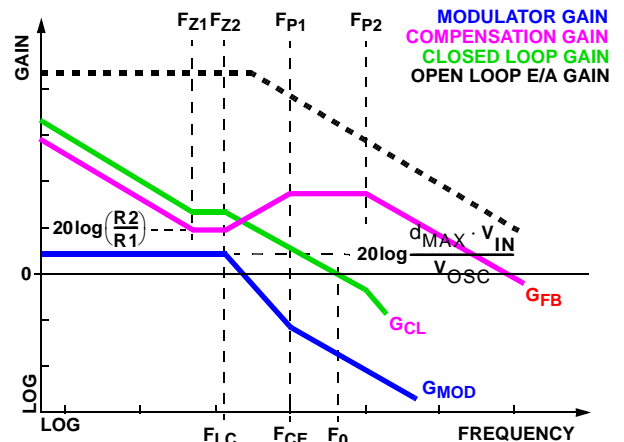

FIGURE 11. ASYMPTOTIC BODE PLOT OF CONVERTER GAIN
Figure 11 shows an asymptotic plot of the DC/DC converter's gain vs. frequency. The actual modulator gain has a high gain peak dependent on the quality factor (Q) of the output filter, which is not shown. Using the above guidelines should yield a compensation gain similar to the curve plotted. The open loop error amplifier gain bounds the compensation gain. Check the compensation gain at F_{P2} against the capabilities of the error amplifier. The closed loop gain, G_{CL} , is constructed on the log-log graph of Figure 11 by adding the modulator gain, G_{MOD} (in dB), to the feedback compensation gain, G_{FB} (in dB). This is equivalent to multiplying the modulator transfer function and the compensation transfer function and then plotting the resulting gain.